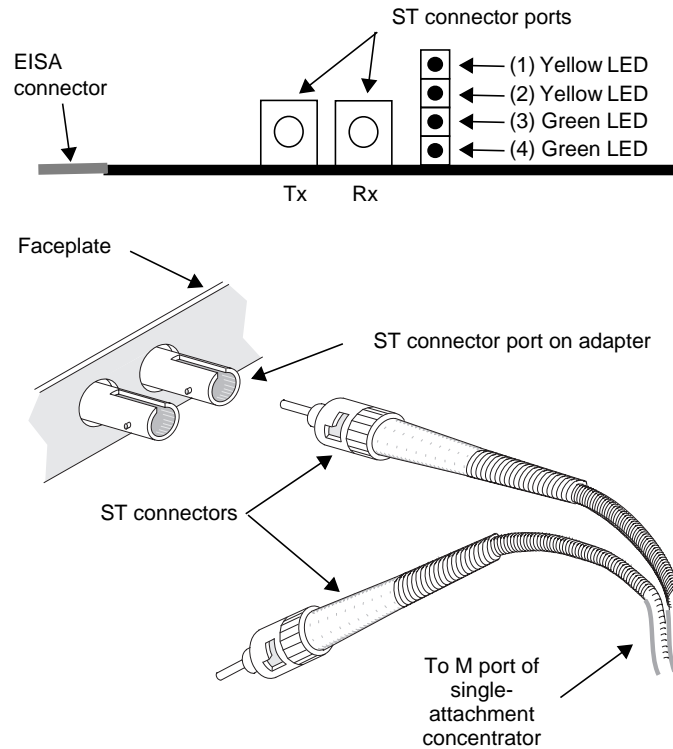

Figure 2-3. SAS ST Fiber Connection
- For ST connections, skip to Figure 2-3 on page 15.